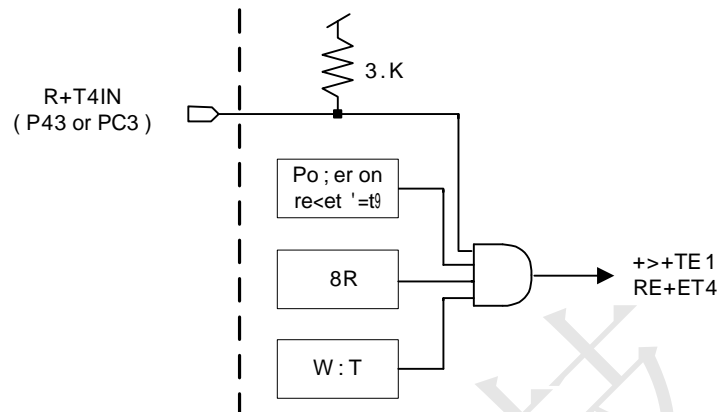

Figure 10.1 Reset system block diagram
CST1608A(C) reset is come from four signals which are power on reset, low voltage reset(LVR), external IO PB3 or PC3 pin (by option) and WDT overflow reset, as shown in Figure 10.1. A dedicated external resetb input pin (by option) is provided to reset this chip, which has 30K ohm pull up resistor. The operation frequency of MCU will go back to BANK0 mode when reset occurred.